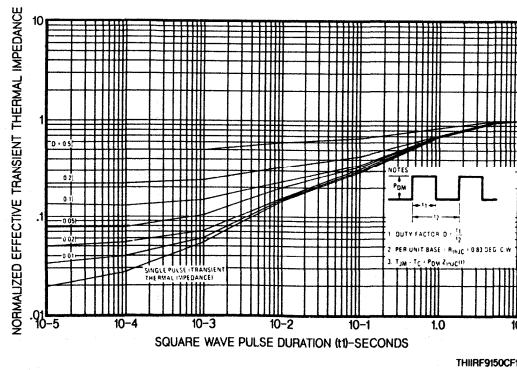

Fig. 5 - Maximum effective transient thermal impedance.
2. Repetitive Rating: Pulse width limited by max. junction temperature. See Transient Thermal Impedance Curve (Figure 5)